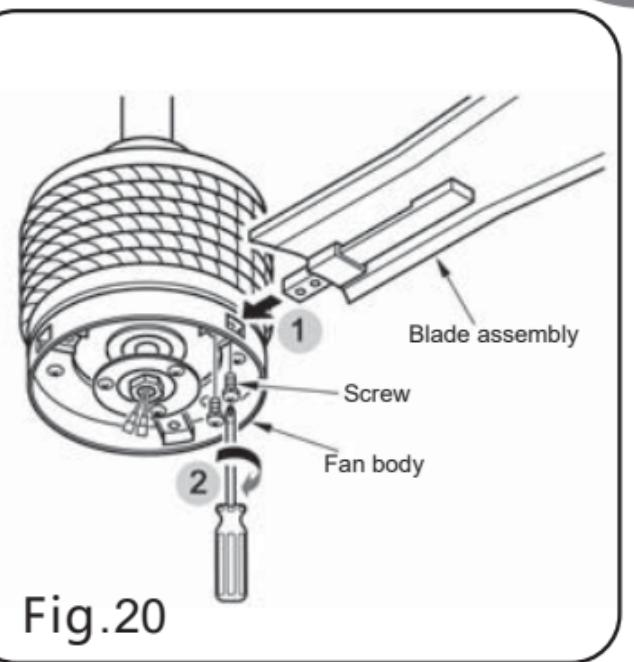

Fig.20
Step2: Attach the blade assembly to the fan body, and secure it using the provided screws pack C. (Fig. 20)